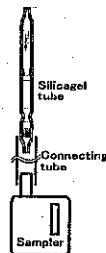

Fig.2
- ① Break both ends of a new silica-gel tube with attached ampoule cutter.
- ② Connect the tube end to the continuous drawing pump which has stable sampling flow rate, 50-200 mL / min with connecting tube as shown in Fig. 2. (Arrow mark shall point to the pump.)
- ③ The sampling volume is obtained by the following equation;